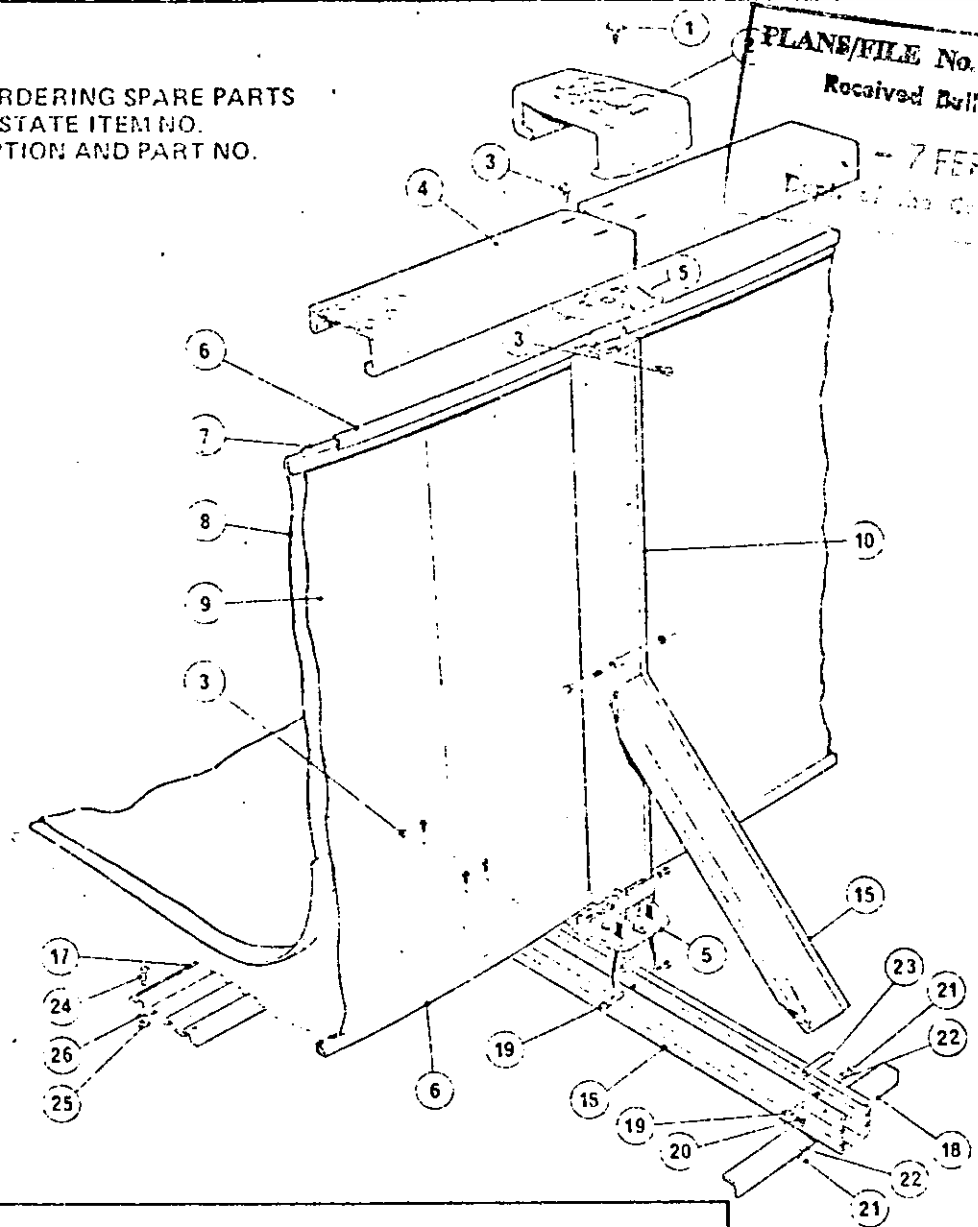

FIG. 1
- Pre-assemble the pool side frames (See Fig. 1.)
- Using 4 self tapping screws attach pressure plates (17) to each base rail (16).
- Using round headed screws (21) connect pressure plates to other.
- Mark the ground around the base channels (16) and skid rails (18).